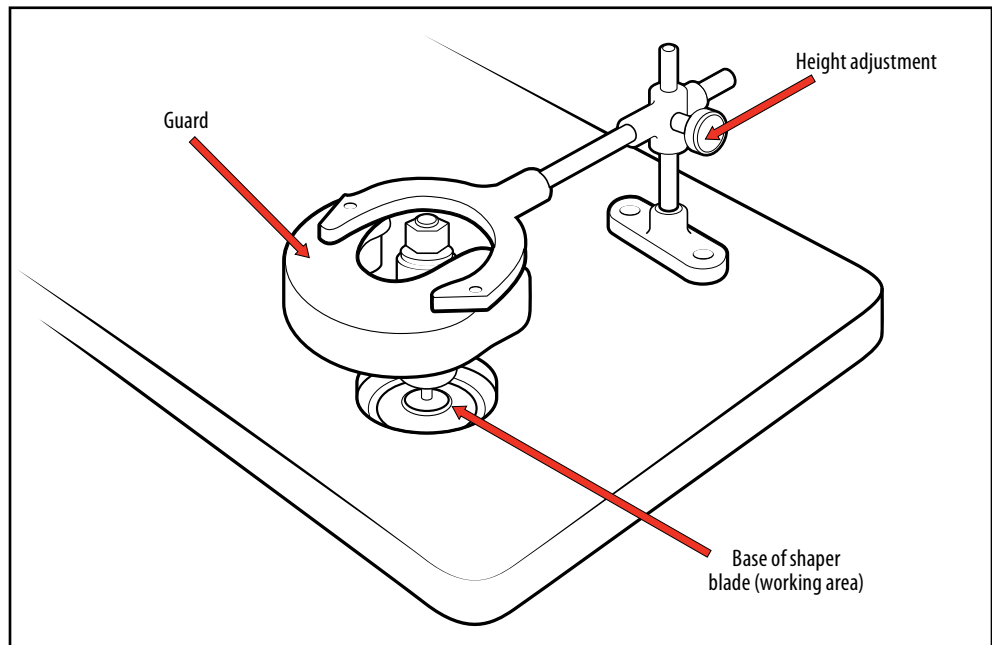

Figure 4.16. Typical shaper.
- Figure 4.16 shows a spindle enclosed with an adjustable guard or cage. For straight-line shaping, the fence frame should include the guard. The fence should contain as small an opening as possible for the knives, and should extend at least 457 mm (18 inches) on either side of the spindle. Split adjustable fences are useful for guarding when the entire edge of the stock is to be shaped.